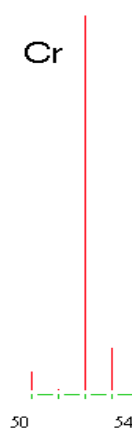

Figure 1. Cr isotope peaks
In your earlier mass spectrometry experiment on methylchloride and methylbromide, you used the isotope peaks to calculate the average molar mass of Cl and Br. Isotope peaks can also be very useful for transition metal complexes. The isotopes of Cr are listed in Table 1. Many metals have characteristic isotope ratios, so observing the isotope peaks in MS confirms the presence of the metal in the complex. In other words, metal complexes with one Cr should have an isotope pattern similar to Figure 1.
- Expand the profile spectrum to show the isotope peaks around 250 m/z. To expand the plot move the mouse cursor until the cursor changes to a "↔", see Figure 6. Then use the right mouse button to control the scale expansion and the left mouse button to control the scale offset. When you have expanded the scale sufficiently, you will see the isotope peaks clearly as shown diagrammatically in Figure 1.